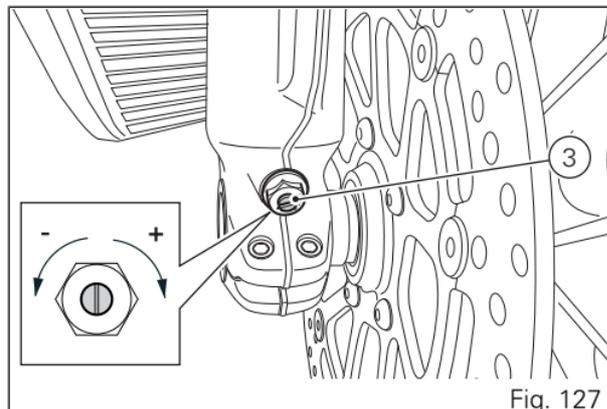

Fig. 127
- 3) to adjust compression damping (Fig. 127).